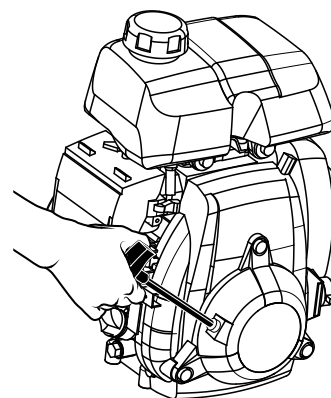

Figure 13. Starter Grip
6. Grasp the starter grip (See Figure 13) and slowly pull it out. The resistance becomes the hardest at a certain position, corresponding to the compression point. Pull the starter grip briskly and smoothly for starting.